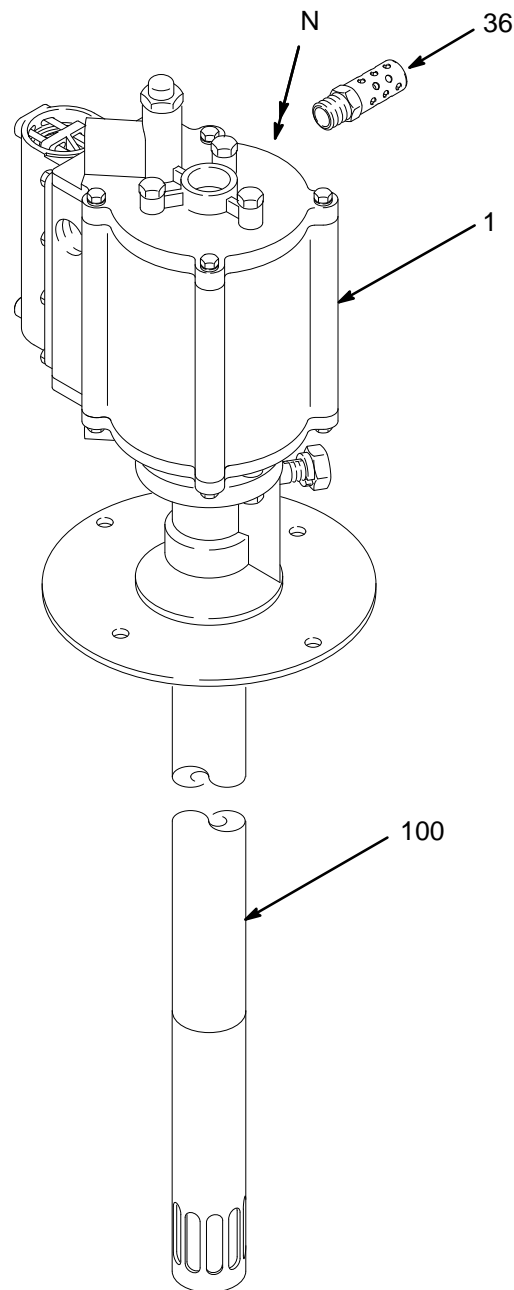

Fig. 1
This equipment consists of two major components: the air motor (1) and the displacement pump (100). See Fig. 1. The pump is an in-line design, which means that the displacement pump screws directly into the motor, without the use of tie rods or couplers. The displacement pump can be placed directly in the fluid being pumped.
Make sure the muffler (36) is securely installed in the exhaust port (N) before you operate the pump. See Fig. 1.